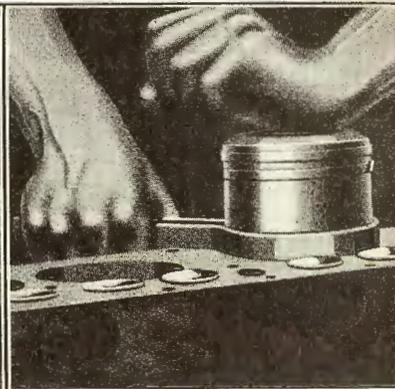

Fig. 255
- 431 Before installing pistons in cylinders place oil on sides of pistons and wipe out cylinder bores with a cloth free from lint. The pistons are then inserted into cylinder bore by pressing rings into piston grooves with a ring squeezer and tapping piston down into cylinder bore with the hand (See Fig. 255) until the bearing end of the rod rests on the crankshaft.